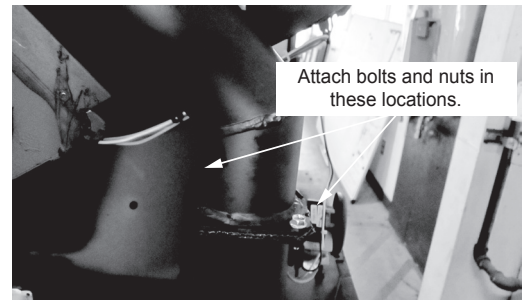

Figure 20.4
3. Using a 3/8-inch wrench and 7/16-inch socket wrench fasten Rear Shroud Top Vent to the exhaust transition with two bolts and two nuts. Secure with two clamps from the appliance (Figures 20.4 and 20.5).